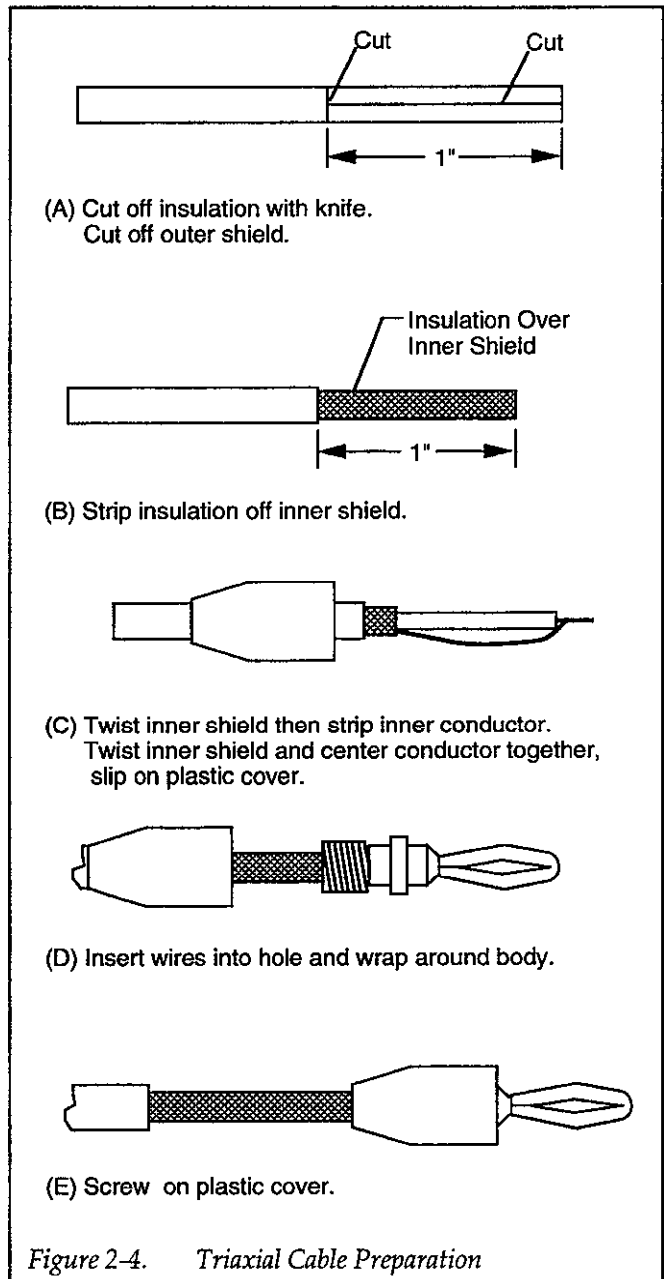

Figure 2-4. Triaxial Cable Preparation
With the Model 237-BAN-3, the center conductor of the triax is connected to the banana plug. The inner and outer shields have no connection. With the special cable shown in Figure 2-4, the inner shield is shorted to the center conductor. Which cable to use depends on your application.
**Note :** See Figure 2-4 for special triax to banana cable.